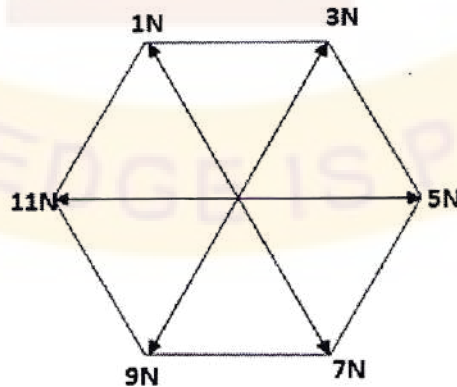

Figure 1
2. Concurrent forces of 1,3,5,7,9,11 N are applied to the centre of a regular hexagon acting towards its vertices, as shown in Figure 1. Determine the magnitude and direction of the resultant.